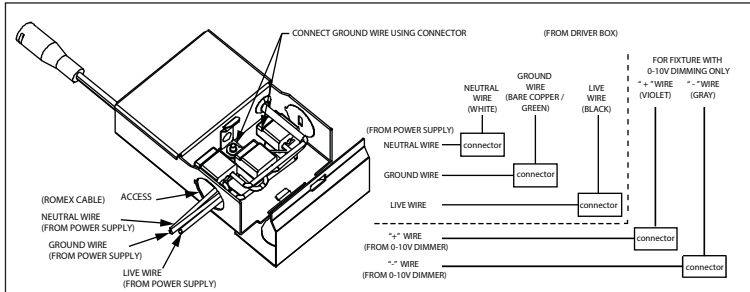

Figure 2 / Figura 2 / Schéma 2
- For 0-10V dimming**, use Wirenut to connect violet dimmer wire from fixture (+) to positive (+) wire from dimmer and gray dimmer wire (-) from fixture to negative (-) wire from dimmer. **See dimmer electrical schematic for more info.** Close the cover of the box. (Figure 2)